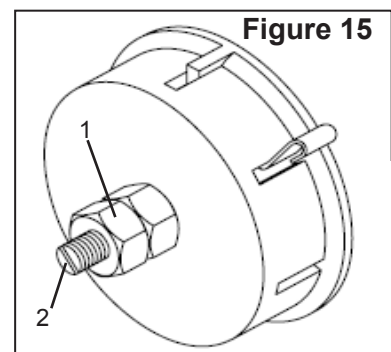

Figure 15
1. Loosen the lock nut (1).
2. Turn the screw (2) clockwise to eliminate the play, but without obstructing the upward movement of the spindle.
3. Tighten the lock nut (1). **Fig. 15**